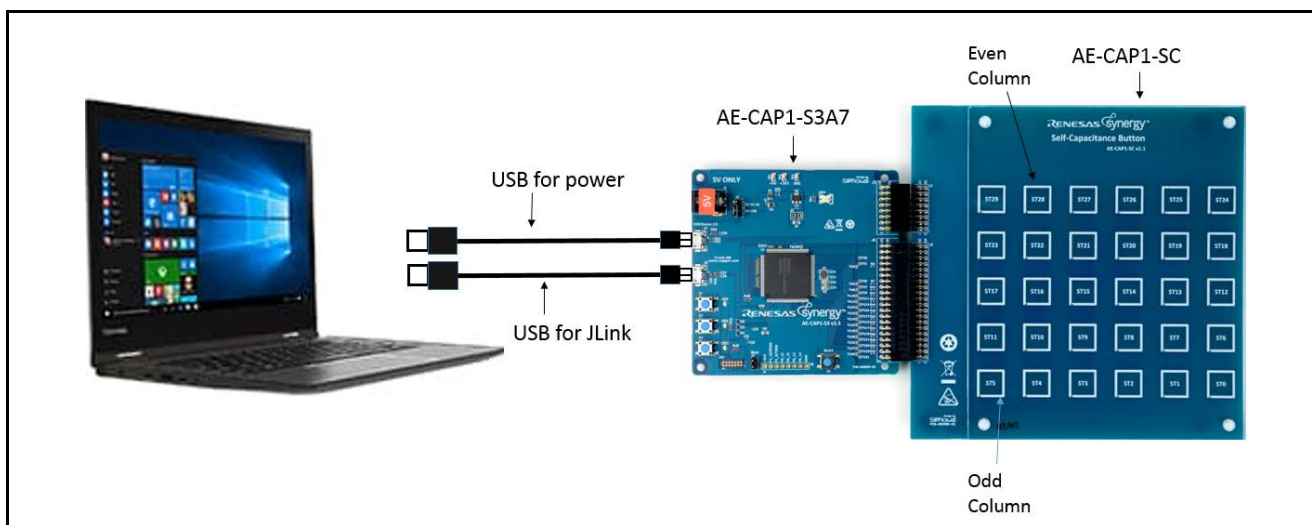

Figure 17. AE-CAP1-S3 and AE-CAP1-SC
- a. Press the buttons on the odd columns of the AE-CAP1-SC board (see Figure 17). Observe that LED1 (Red) illuminates and turns off after it is released.
4. Press the buttons on the even columns of the AE-CAP1-SC board (see Figure 17). Observe that LED2 (Yellow) illuminates and turns off when it is pressed to release.